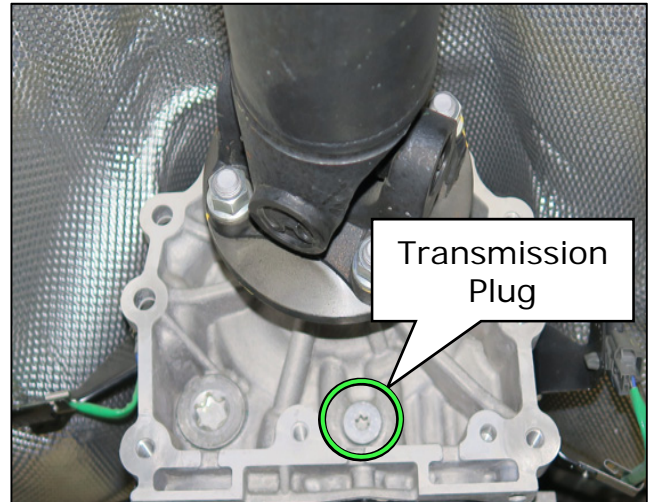

Figure 10
10. Remove the Transmission Plug shown in Figure 10.